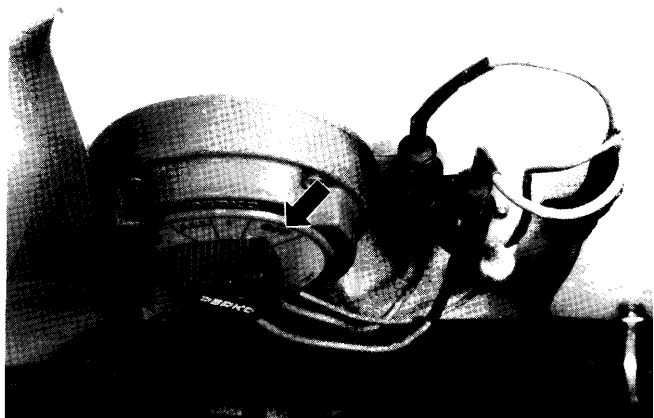

Figure 33
2. Put the battery main switches in the “Off” position. See figure 33.